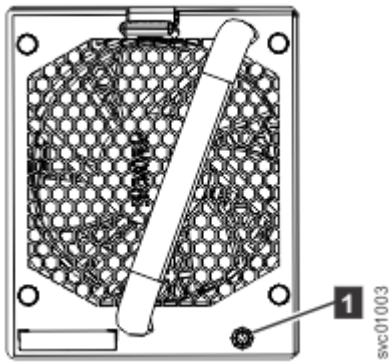

Figure 120. Fan module LED
1. Identify the fan module to be replaced. When lit, the amber LED on the front of the fan module (**1** in Figure 120 on page 103) identifies a fault.